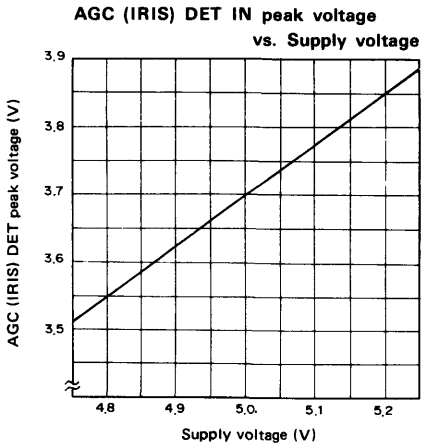

Fig. 7
Measure the output peak voltage of pins (4) and (19) by setting SG1=300mVp-p. (Fig. 7)